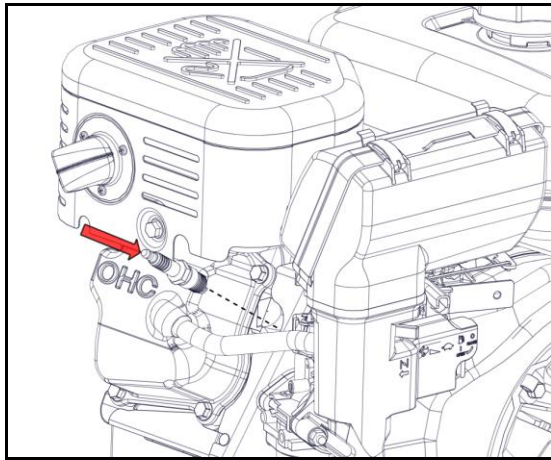

Figure 8 – Installing spark plug
- 3) Install the new plug by rotating it clock-wise (Figure 8).